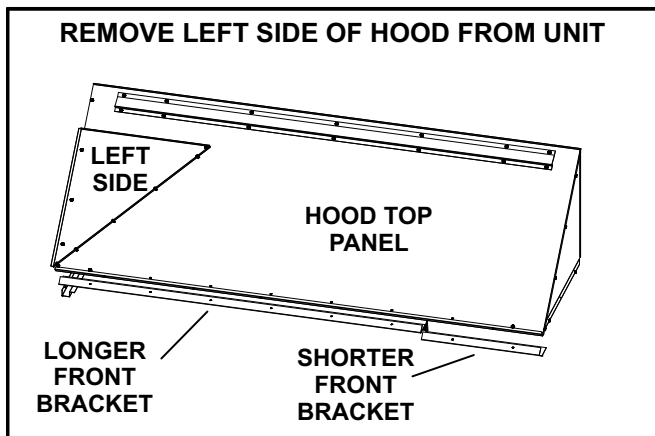

FIGURE 7
- 1- Remove left side from hood top panel. See figure 7.
- 8- Install longer front filter bracket on hood top as shown in figures 7 and 9. Insert four filters.